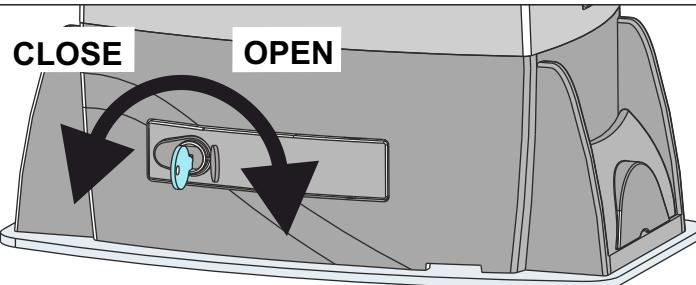

Fig. 31
- Open the lock cover, insert the key and rotate 90° clockwise - Fig. 31